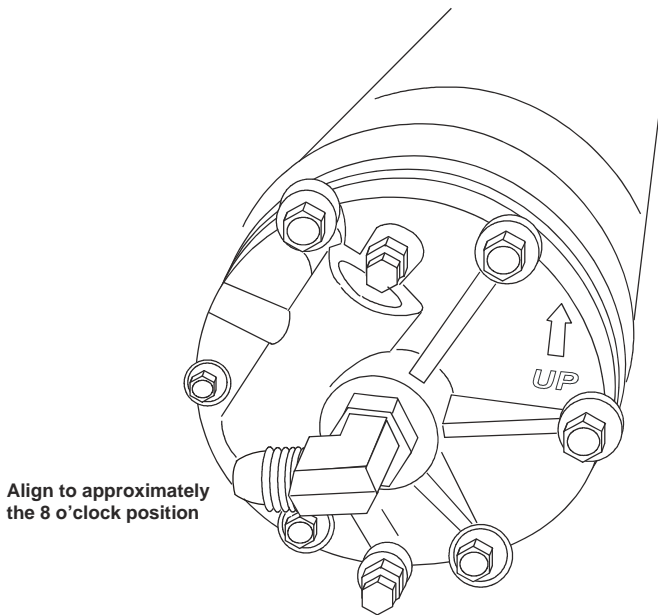

Figure 4.2
- ☐ Apply Loctite pipe thread sealant and install a 90 degree fitting to the outlet on the tank. Tighten it to about the eight O'clock position for testing, then reposition as required for operational connections (Figure 4.2).